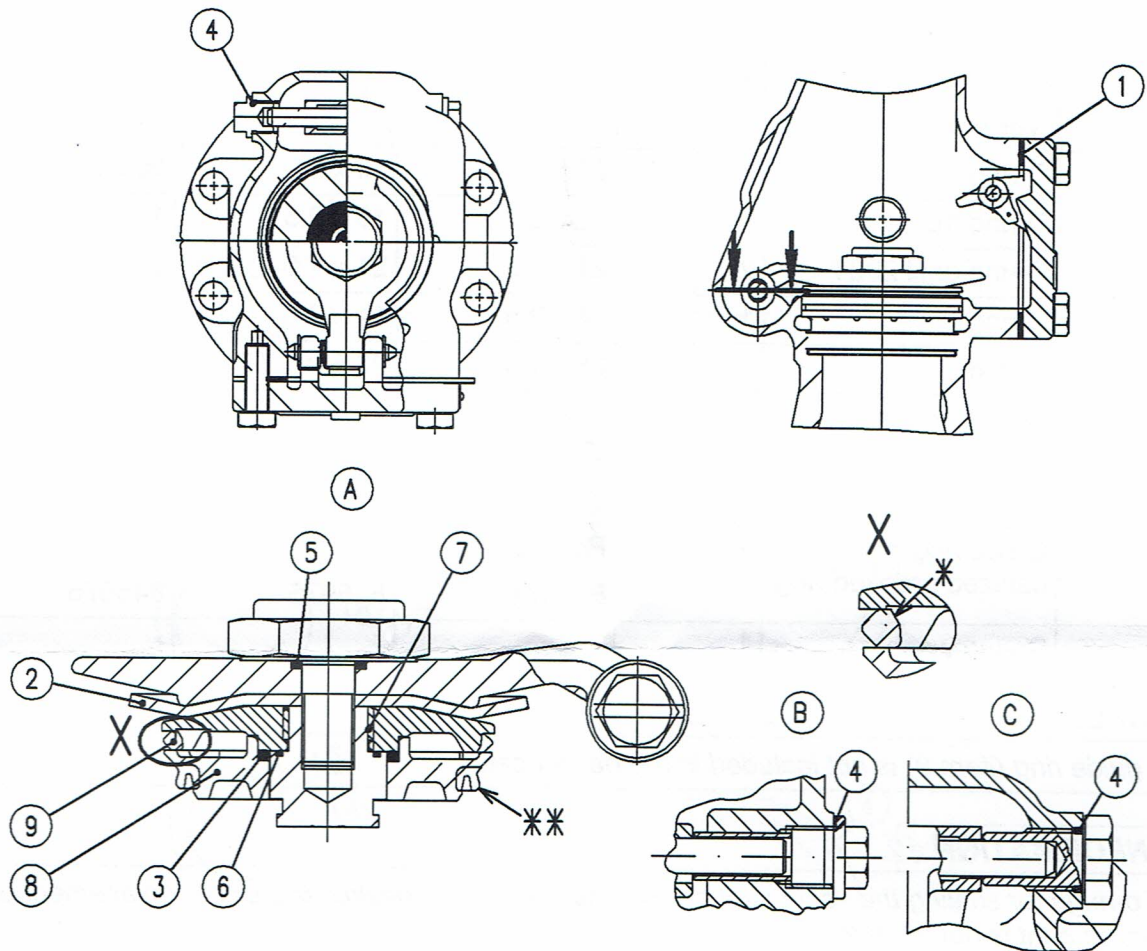

Fig. 1: Overview
* The inner bevel of the spring washer (Fig. 1/9) must face upwards.
** The vulcanized grooved ring cannot be replaced. If it is damaged, the guide ring (Fig. 1/8) must be ordered.